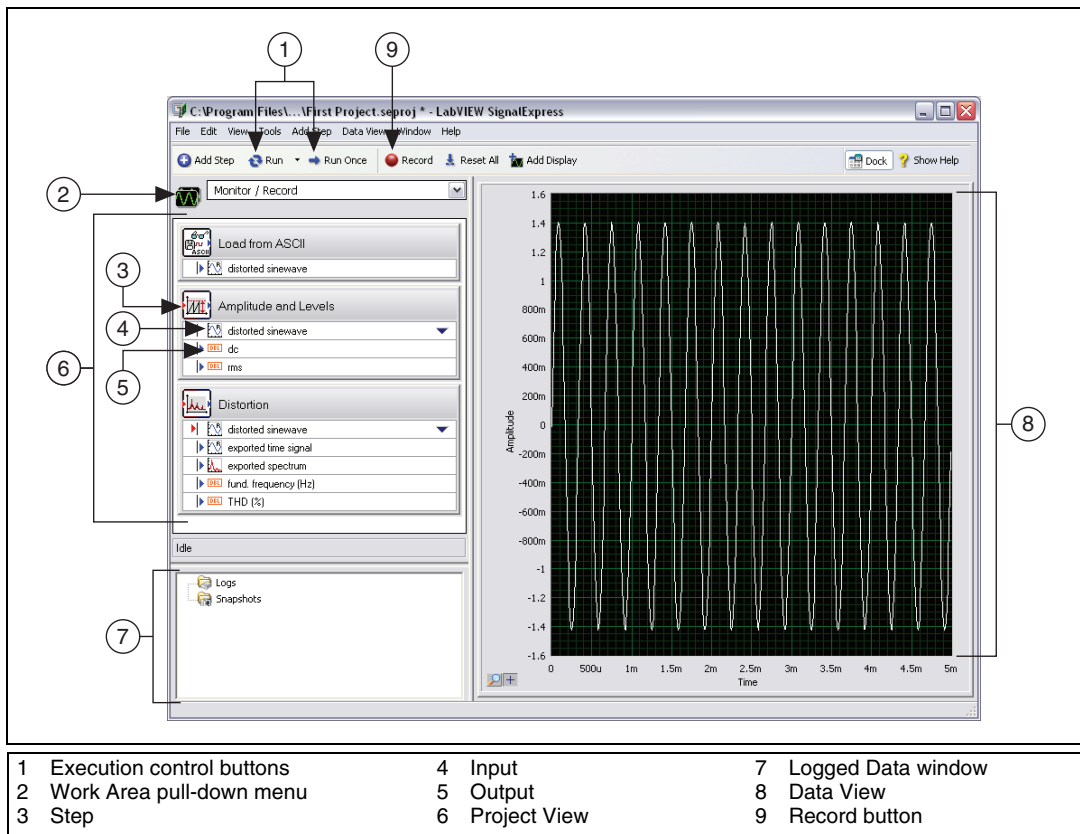

Figure 3-1. First Project.seproj
4. Examine the window that appears, as shown in Figure 3-1 with the help hidden, to learn about different components of LabVIEW SignalExpress.